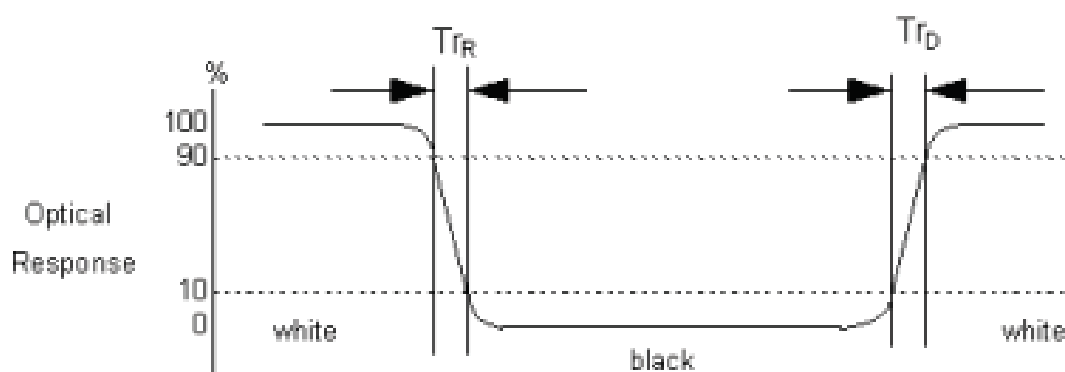

Fig.4-3 Response time
4. Response time is the time required for the display to transition from to black (Rise Time, $T_{rR} = T_r$) and from black to white (Decay Time, $T_{rD} = T_f$). For additional information see FIG4-3.